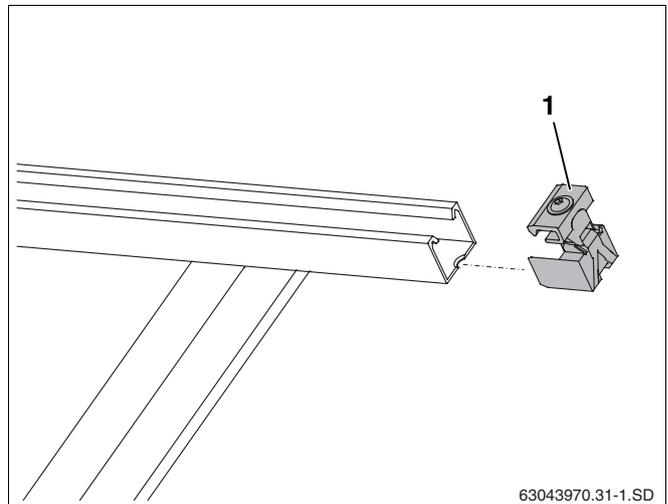

Fig. 44 Pushing on the single-sided collector clamp
- ▶ Push single-sided collector clamps (Fig. 44, **Item 1**) into the profile rails at the right-hand end of the collector array until they click into place in the first slotted hole on the profile rails.